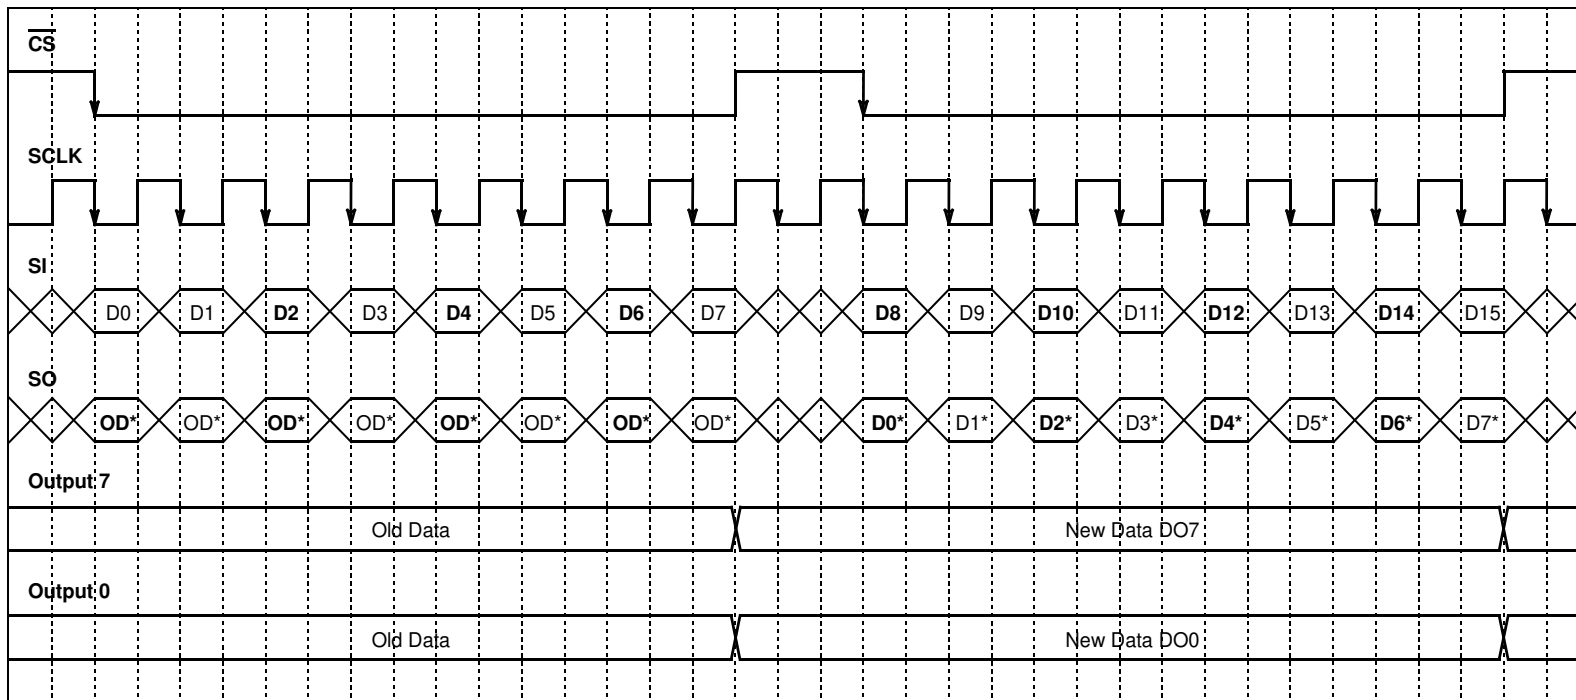

Figure 18. Data Transfer Timing
The system clock (SCLK) pin clocks the internal shift registers of the 33291. The serial input (SI) pin accepts data into the Input Shift register on the falling edge of the SCLK signal while the serial output (SO) pin shifts data information out of the SO line driver on the rising edge of the SCLK signal. False clocking of the Shift register must be avoided to guarantee validity of data. It is essential the SCLK pin be in a logic low state whenever the chip select bar (\overline{CS}) pin makes any transition. For this reason, it is recommended, though not absolutely necessary, the SCLK pin be kept in a low logic state as long as the device is not accessed (\overline{CS} in logic high state). When \overline{CS} is in a logic high state, signals at the SCLK and SI pins are ignored and SO is tri-stated (high impedance). See the Data Transfer Timing diagram in Figure 18, page 17.
To program the eight outputs of the 33291 ON or OFF, an 8-bit serial stream of data is required to be synchronously entered into the SI pin starting with Output 7, followed by Output 6, Output 5, and so on, to Output 0. Referring to Figure 18, the DO bit is the most significant bit (MSB) corresponding to Output 7. For each rise of the SCLK signal, with \overline{CS} held in a logic low state, a data-bit instruction (ON or OFF) is synchronously loaded into the Shift register per the
The serial output (SO) pin is the tri-stateable output from the Shift register. The SO pin remains in a high impedance state until the \overline{CS} pin goes to a logic low state. The SO data reports the drain status, either high or low relative to the previous command word. The SO pin changes state on the rising edge of SCLK and reads out on the falling edge of SCLK. When an output is OFF and not faulted, the corresponding SO data-bit is a high state. When an output is ON, and there is no fault, the corresponding data-bit on the SO pin will be a low logic state. The SI/SO shifting of data follows a first-in-first-out (FIFO) protocol with both input and output words transferring the MSB first. Referring to Figure 18, the DO bit is the MSB corresponding to Output 7 relative to the previous command word. The SO pin is not affected by the status of the \overline{RST} pin.
The MCU can perform a parity check of the fault logic operation by comparing the command 8-bit word to the status 8-bit word. Assume after system reset, the MCU first sends an 8-bit command word to the 33291. This word is called Command Word 1. Each output to be turned ON will have its corresponding data bit low. Refer to the data transfer timing illustration in Figure 18.
As Command Word 1 is being written into the Shift register of the 33291, a status word is being simultaneously written and received by the MCU. However, the word being received by the MCU is the status of the previous write word to the 33291, Status Word 0. If the command word of the MCU is written a second time (Command Word 2 = Command Word 1), the word received by the MCU, Status Word 2, is the status of Command Word 1. The timing diagram illustrated in Figure 18 depicts this operation. Status Word 2 is then compared with Command Word 1. The MCU will Exclusive OR Status Word 2 with Command Word 1 to determine if the two words are identical. If the two words are identical, no faults exist. The timing between the two write words must be greater than 100 μs to receive proper drain status. The system data bus integrity may be tested by writing two like words to the 33291 within a few microseconds of each other.